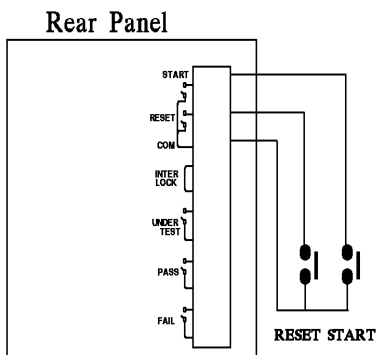
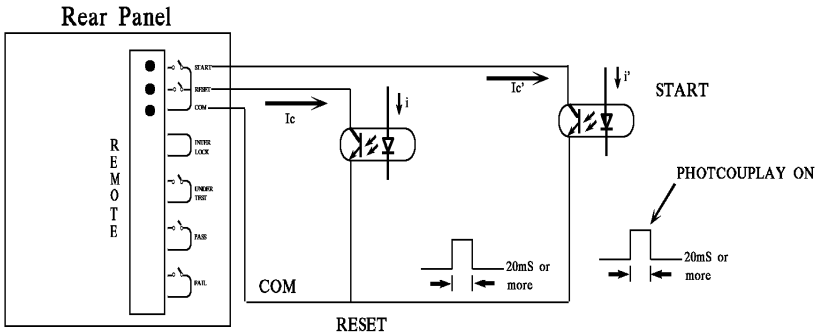

Figure 3-1
Figure 3-3
1. For single control of START and STOP signals follow Figure 3-1 listed below to connect them to the REMOTE position on front panel of the main system.
3. The logic components of transistor, FET and couplers can be connected and used as control circuit. The connected signals and circuit are shown as Figure 3-3 below. To use this circuit to control the system, it must contain the following:
4. Either the relay switch control in Figure 3-1 or the coupler control in Figure 3-3 uses the contact of components for control action. It can prevent the error operation from interference effectively. Though the system has a lot of precautions, you would still need to watch out the interference caused by the measurement system settings.